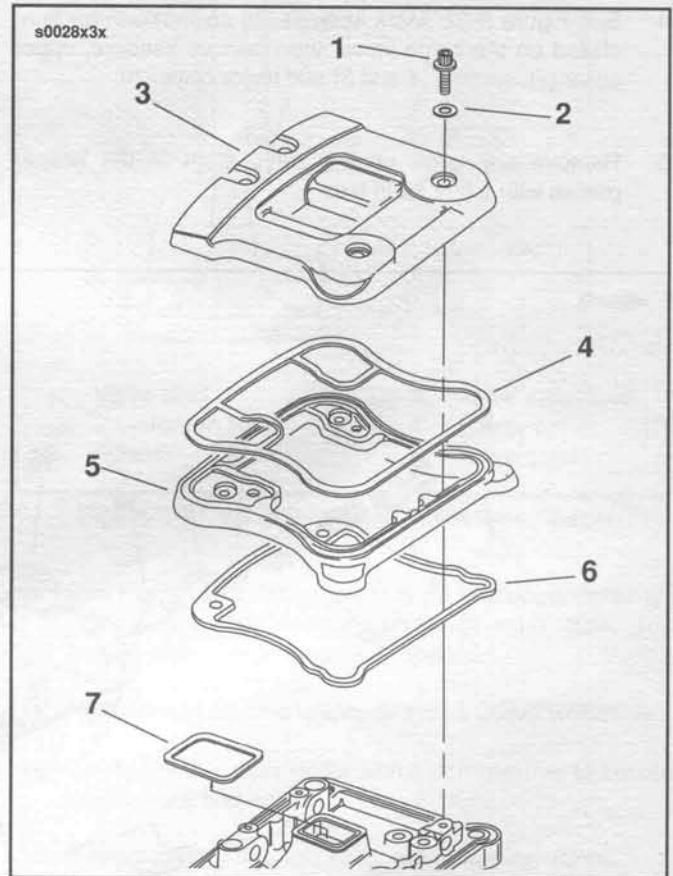

Figure 3-20. Middle and Upper Rocker Covers
8. See Figure 3-20. Install the middle (5) and upper (3) rocker arm covers, using new gaskets (4, 6, and 7) and new fiber seals (2). Be sure the middle cover section is spaced evenly on all sides before tightening the cover screws. Tighten the screws (1) to 10-14 ft-lbs (14-19 Nm) following a crisscross pattern.